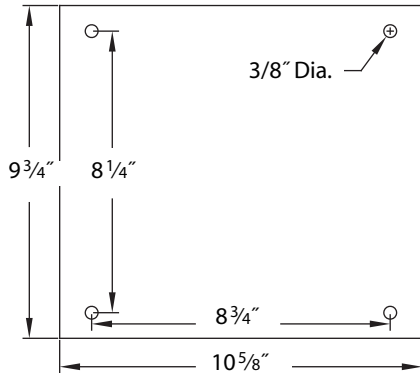

Figure 3 – Base dimension and mounting holes.
Refer to Figure 3.
- Figure 3 shows the base dimensions and mounting holes.